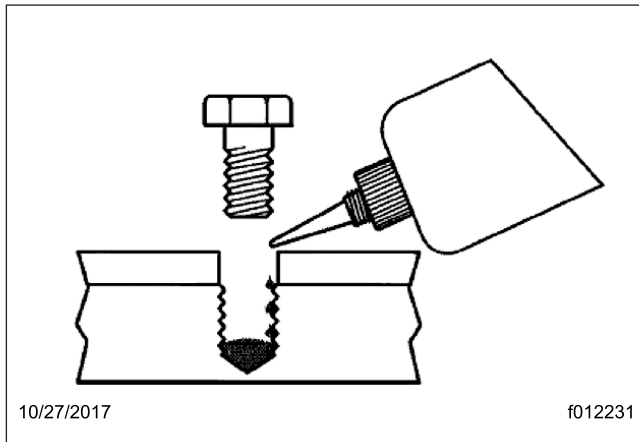

Fig. 9, Applying Thread Locker on the Internal Threads
70. Apply several drops of medium strength thread locker (Loctite Blue 242, or equivalent) down the internal threads of the four threaded holes. See Fig. 9.